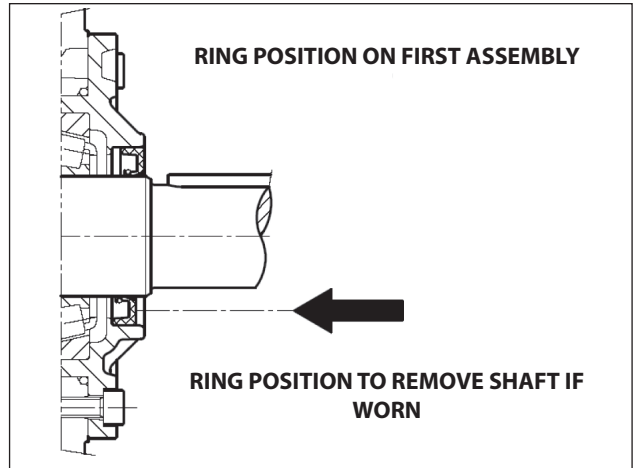

Fig. 7
If replacement is necessary, position the new ring using a tool (code 27904800) as shown in Fig. 7.
**If the pump shaft shows diametrical wear in the area of contact with the lip seal, in order to prevent the grinding operation, it is possible to reposition the ring in abutment with the cover as shown in Fig. 7.**